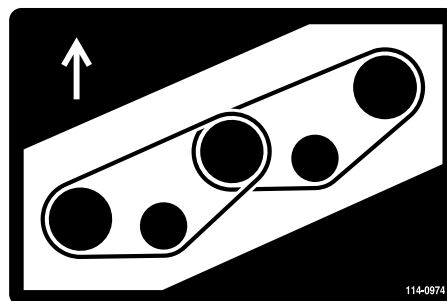
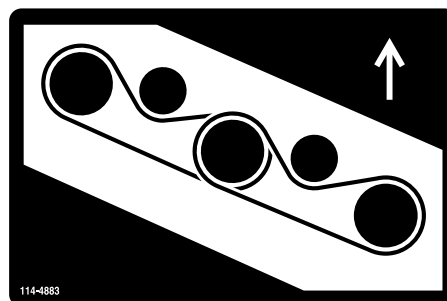

Figure 125
Figure 126
7. Route the new belt around the spindle pulleys and idler-pulley assembly (Figure 125 and Figure 126).